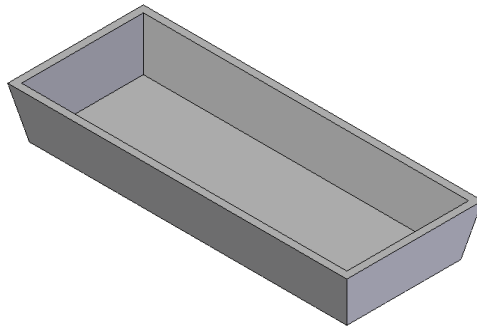

Figure 8-67 Model after adding the thin wall feature
- Add a thin wall feature to the model, refer to Figure 8-67.
4. Choose the **Preview** button and then choose **Finish** to create the thin wall feature. The model, after creating the thin wall feature, is shown in Figure 8-67.